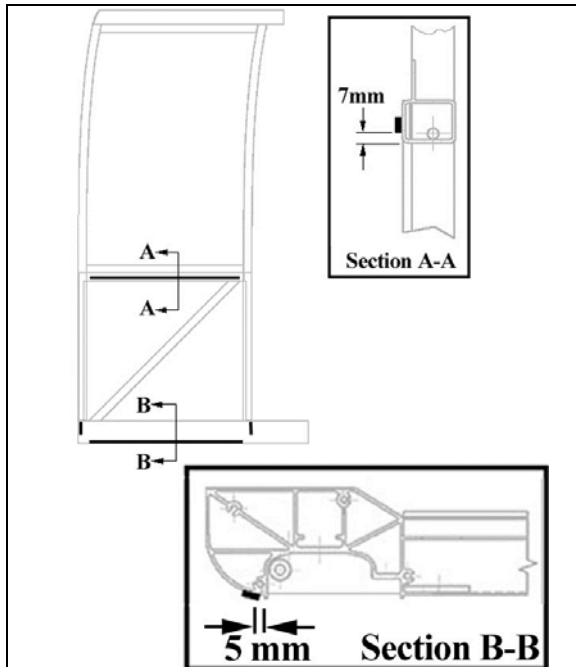

FIGURE 43 : SIDE PANEL INSTALLATION – DOUBLE FACE ADHESIVE TAPE APPLICATION ON THE SLIDE-OUT STRUCTURE
3. Refer to figure 43 for 1/16x1/4 double face adhesive tape location on structure Do not remove the tape blue protective layer [7mm≈9/32"] [5mm≈6/32"];